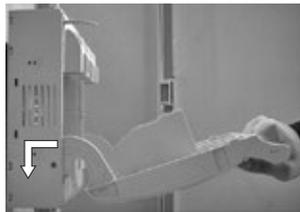

Figure 4
- Insert the cover into the base of disconnecter and then move the cover along the base of disconnecter up to firm resistance (Figure 4).